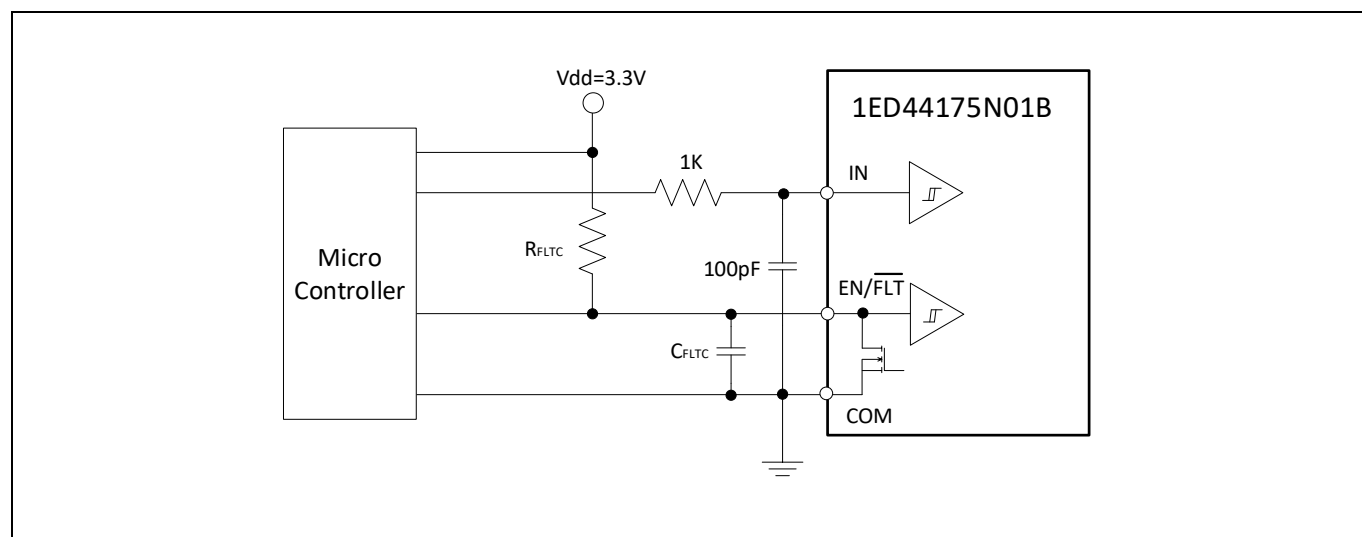
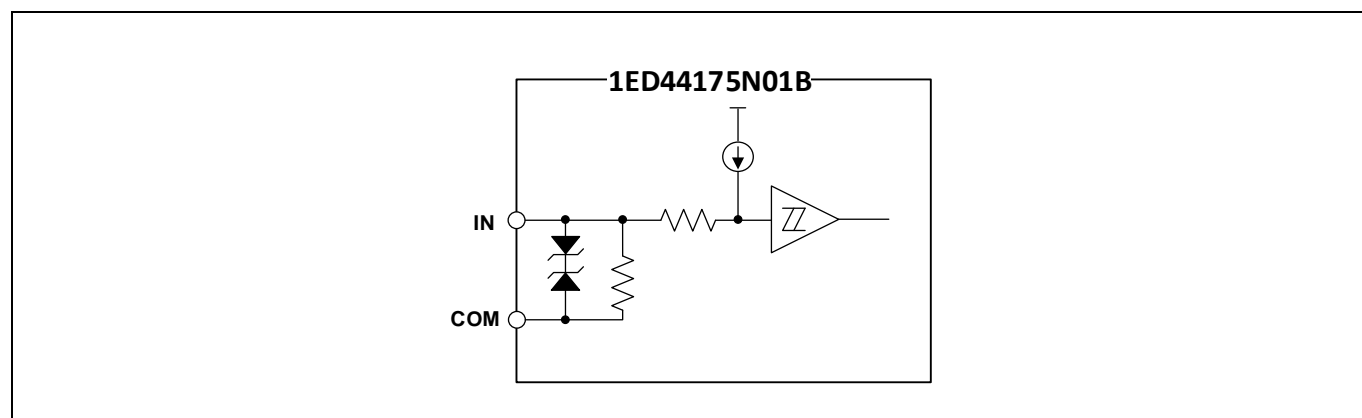

Figure 3 Recommended micro-controller I/O interface circuit
Figure 4 Simplified input structure diagram of 1ED44175N01B
- To prevent signal oscillations, an RC coupling is recommended as illustrated in Figure 3.
Figure 3 shows the I/O interface circuit between a micro-controller (μC) or digital signal processing (DSP) and the 1ED44175N01B. The 1ED44175N01B input logic is active-high. The $\text{EN}/\overline{\text{FLT}}$ output is an open-drain configuration. This signal should be pulled up to high by an external logic power supply with a pull-up resistor. RC (1 K Ω / 100 pF) is recommended for the "IN" pin to prevent input noise.
As shown in Figure 4, the 1ED44175N01B input signal section integrates a pull-down resistor. Therefore, when using an external filtering resistor between the micro-controller output and 1ED44175N01B input, pay attention to the signal voltage drop at the 1ED44175N01B input terminal. It should fulfill the logic "1" input voltage requirement. For instance, $R = 1\text{ k}\Omega$ and $C = 100\text{ pF}$ are recommended for the parts shown in Figure 3.